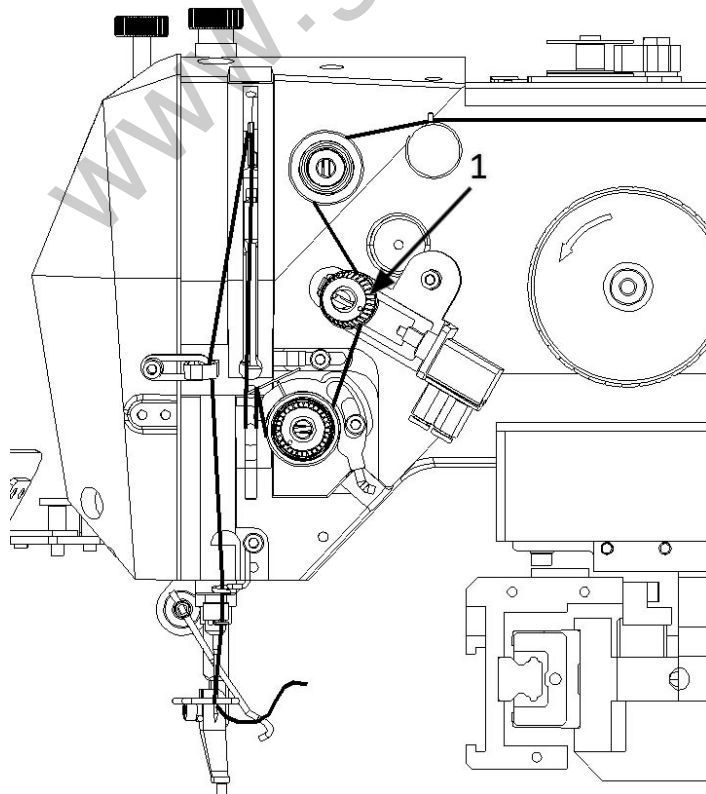

Fig. 30
This tensioner (1) is helpful with sewing of two thicknesses of materials. It divides the tension of the thread in combination with main tensioner. By this the stitch composition is perfect and setting of tension is easier, Fig. 30.